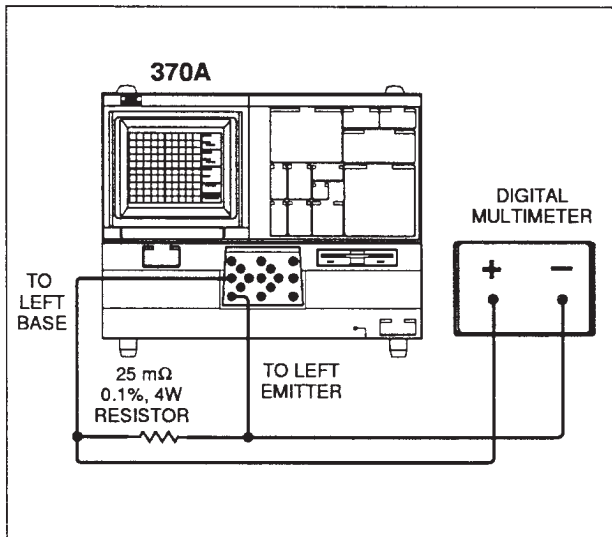

Figure 4-7. Checking for Maximum Current Output of 100 mA and 200 mA range.
- q. Connect a 0.025 Ω Resistor between the Left Base jack (B) and the Left Emitter jack (E) and connect the Digital Multimeter to the leads of the Resistor as shown in Figure 4-7.